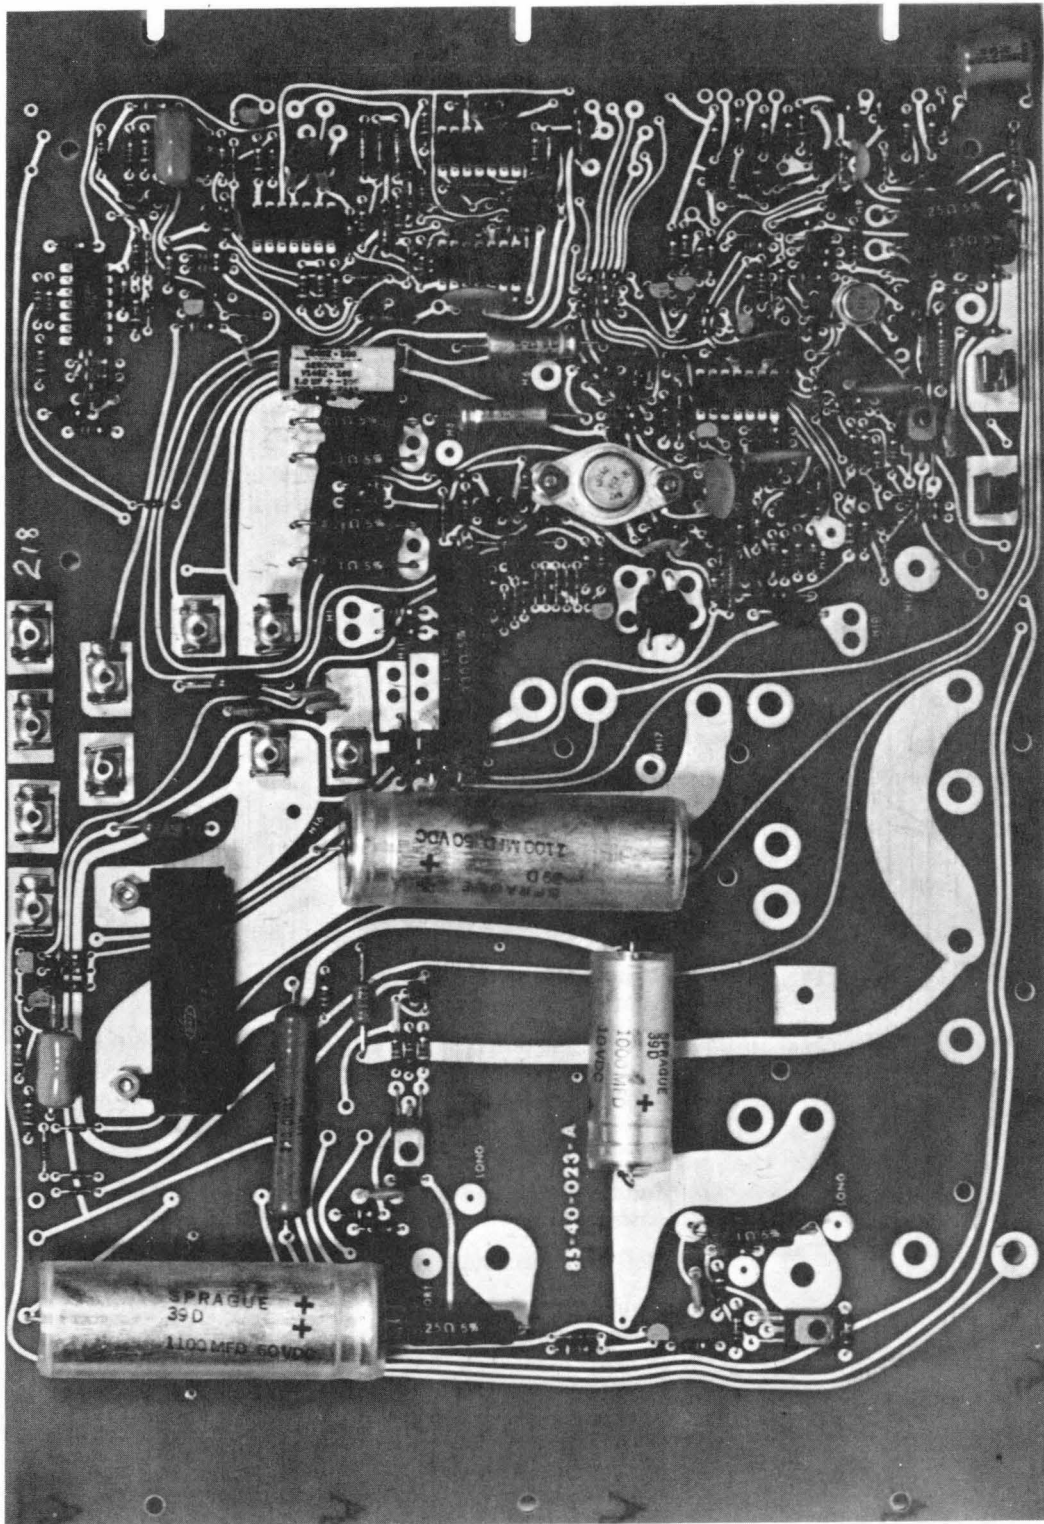

Figure 5-18 Power Supply Printed Circuit Card
6.	To install a new supply, reverse the above procedure. When installing a new supply, the power leads must be properly connected to prevent damage to the computer. Power and signal names are clearly etched onto the bus boards next to the fast tab terminal connectors. Wiring runs to the same type connectors on the power supply printed circuit card inside the supply. After installing a new supply and before connecting power, check the wiring between the power supply PC board (see Figure 5-18) and the bus boards to ensure proper connection.